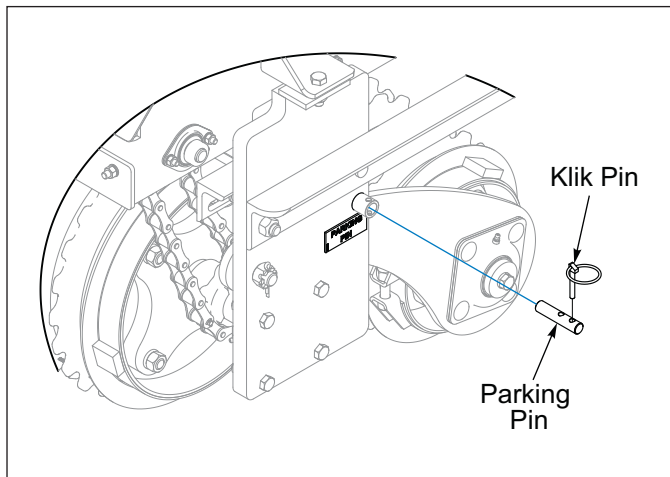

Figure 3-2: Parking Pin
2. Raise Seeder. Remove the Klik Pin, pull the Parking Pin into the outer position, replace the Klik Pin. **See Figures 3-2 and 3-3.**
1. With Seeder raised, remove the Klik Pin, push in the Parking Pin, replace the Klik Pin. **See Figures 3-2 and 3-4.**